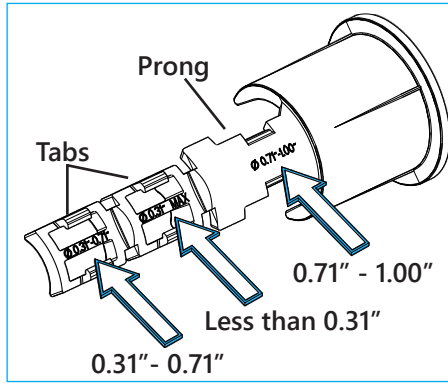

Figure 21.
9.2.5.2 Each tab and the prong on the spacer itself is marked to indicate a specific cable size. (Figure 21)